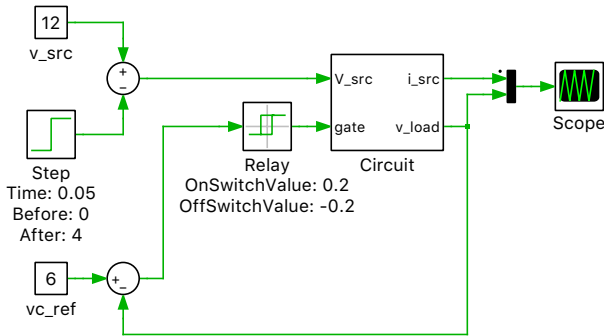

Figure 14: Buck converter with hysteresis control in PLECS
- 2 Build the controller shown in Fig. 14.